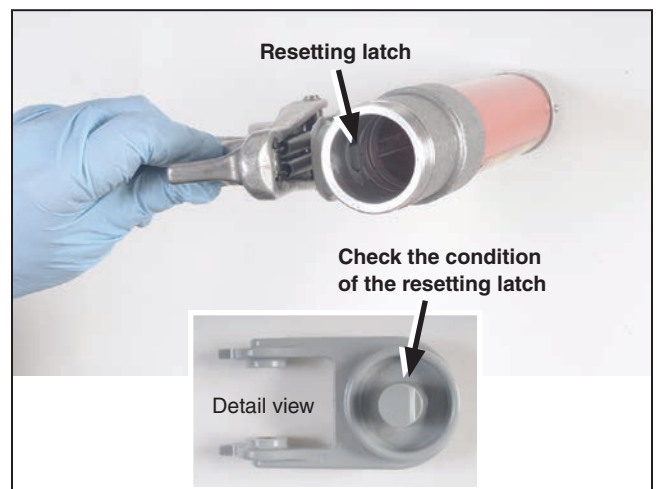

Figure 24. Inspect the resetting latch..
STEP 20. Inspect the resetting latch. Look for excessive wear on the latching surface. The latching surface should be flat. Pull the latch and check the springs. Replace the resetting latch if it is deformed or damaged. See Figure 24.